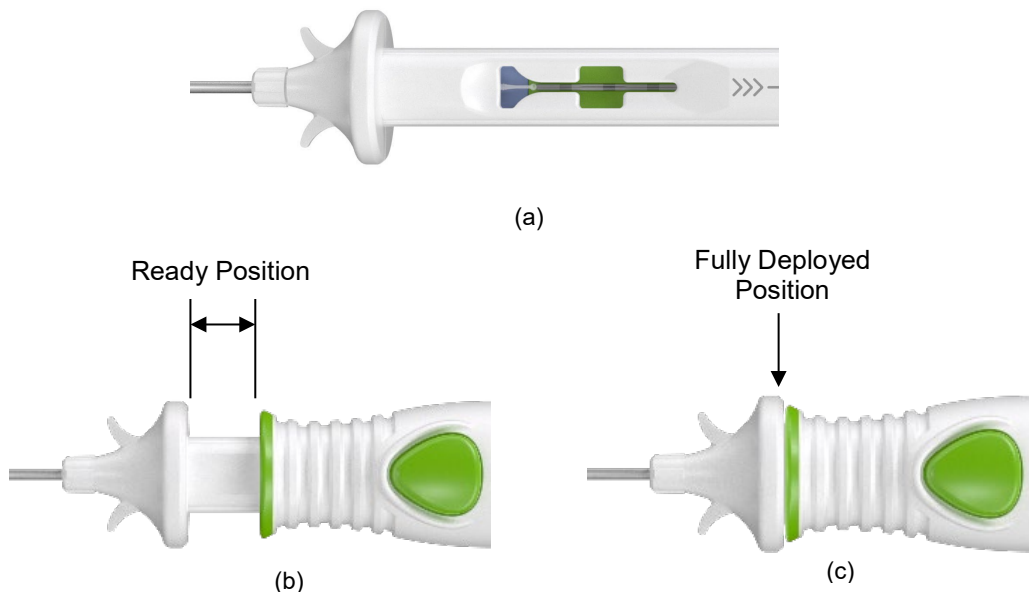

Figure 6: Images showing (a) Proper Cannula advancement and Implant Loading, (b) Delivery Device Ready Position, (c) Delivery Device Deployed Position
6. Slowly advance the outer handle until the outer handle locks into the ready position to advance the Implant into the delivery cannula. While advancing, watch the implant load into cannula inner lumen. This positions the Implant at the tip of the cannula in the ready position. Proper implant loading and handle positioning is shown in Figure 6 below.